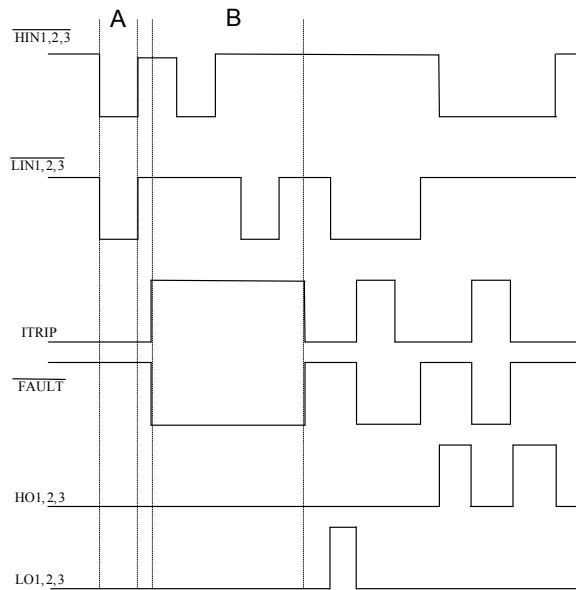

**Figure 3: Switching time waveforms**
The relationship between the input and output signals of the IRS233(0,2)(D) are illustrated below in Figures 3. From these figures, we can see the definitions of several timing parameters (i.e.,  $PW_{IN}$ ,  $PW_{OUT}$ ,  $t_{ON}$ ,  $t_{OFF}$ ,  $t_R$ , and  $t_F$ ) associated with this device.